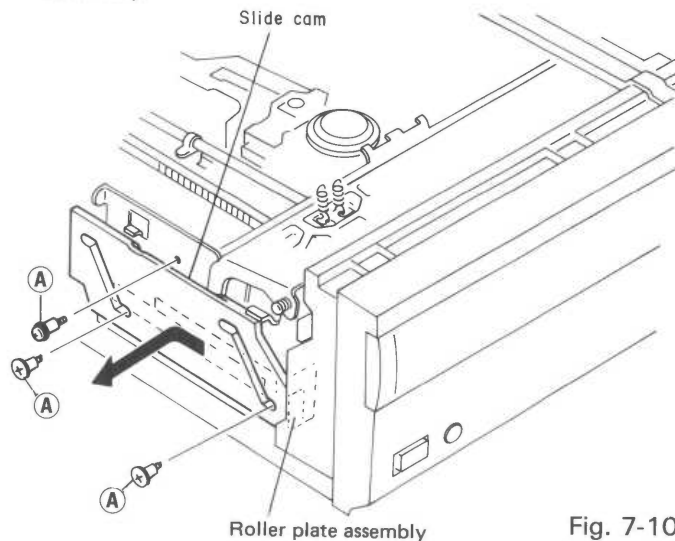

Fig. 7-10
## 7.9 REMOVING THE SLIDE CAM AND ROLLER PLATE ASSEMBLY (Fig. 7-10)
- ① Position three switch levers so that they are nearly parallel (approx. 2mm), as shown in Fig. 7-10.